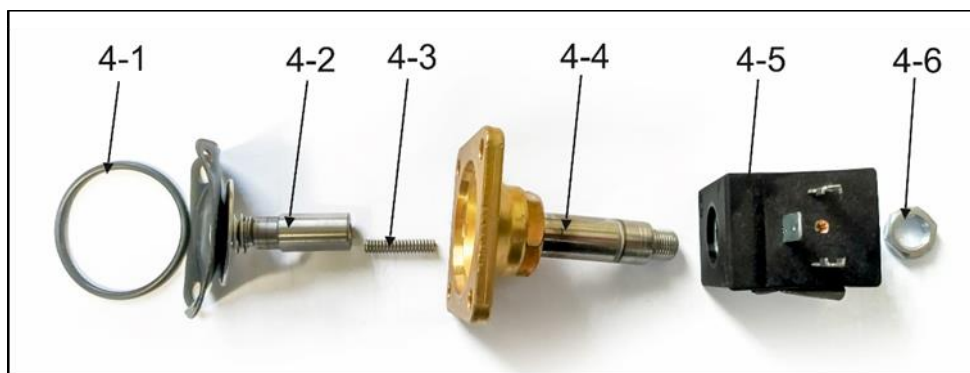

Fig. 27: Solenoid valve assembly
- Unscrew the 1 screw from the valve connector (1).
- Disconnect the valve connector (1).
- Unscrew the 4 screws (2).
- Remove the solenoid valve (3).
- Remove the valve seal (4-1) from the body. (Fig. 27).
- Install the solenoid valve (Fig. 27).
- Install the new solenoid valve using the 4 screws (2) and use a thread locking adhesive on the threads of the screws (such as Loctite 243).